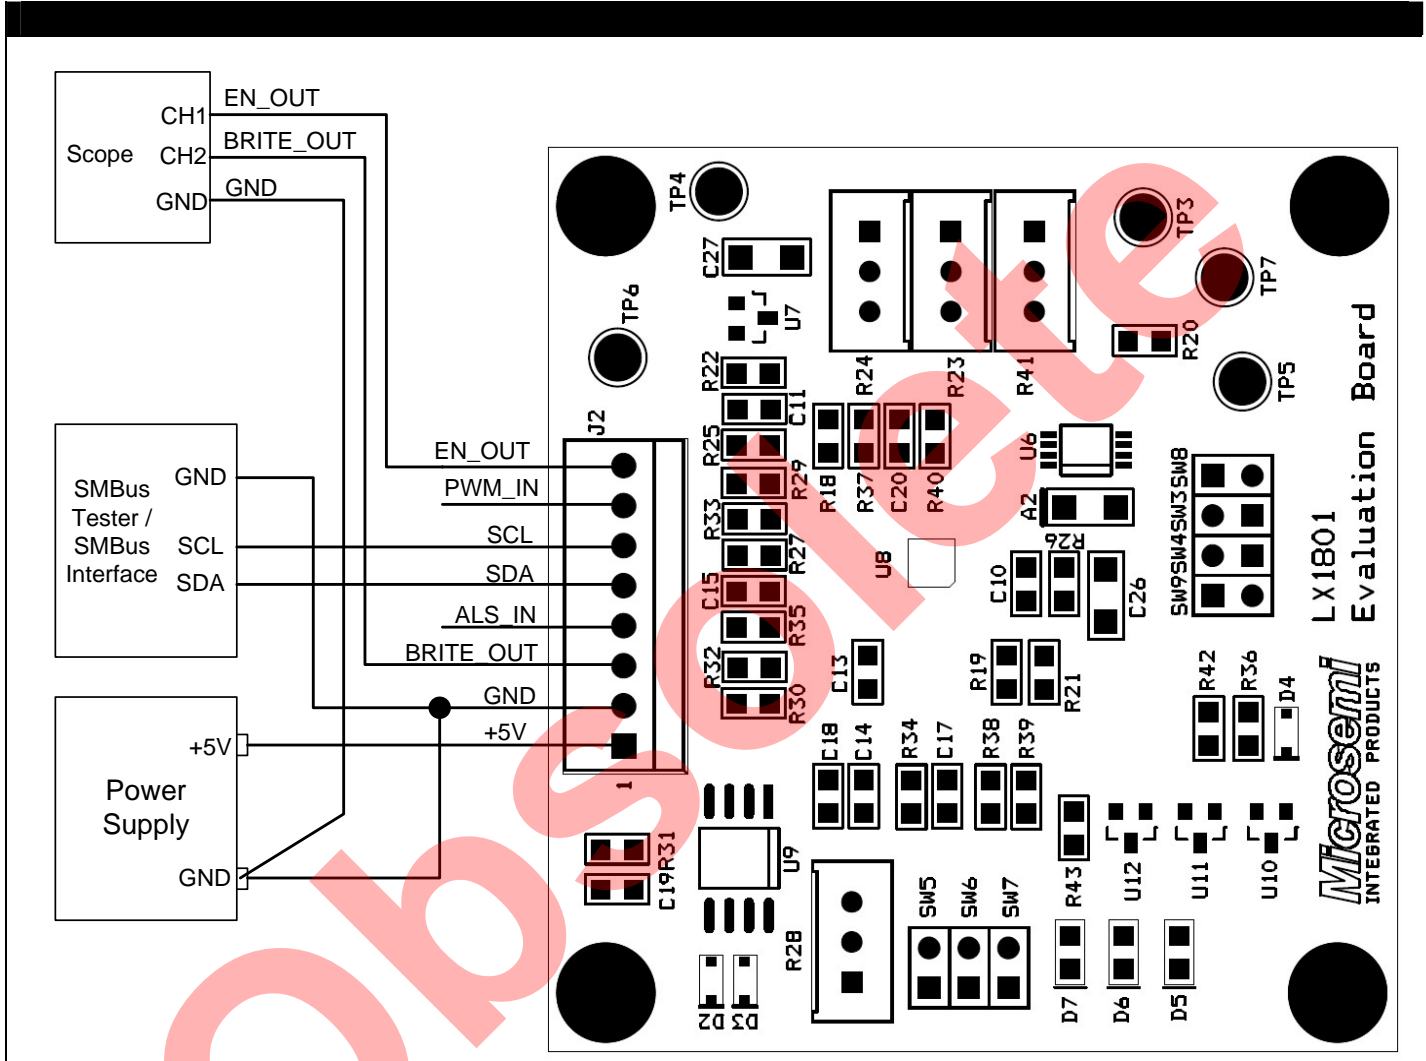

Figure 4: LX1801 Typical Test Hookup
Connections: The LX1801 Evaluation Board has a 8-pin connector connecting to outside power and signals. The connection pin names and functions are listed below. Figure 4 is a suggested test connection diagram.
- 1) Make connections as shown in Figure 4. Apply 5V power source to the board. Measure Pin 1 and Pin 2 on connector J1 to verify +5V power is supplied to the board.